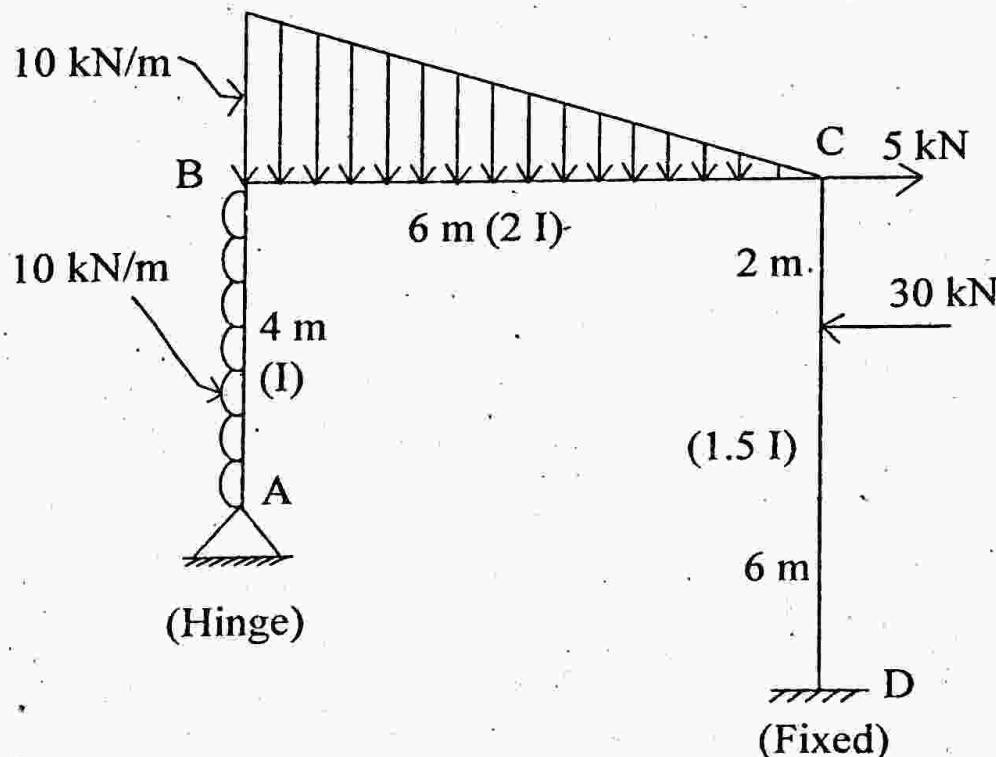

Fig. 1
1. Analyse the portal frame in Fig. 1 by Kani's method.